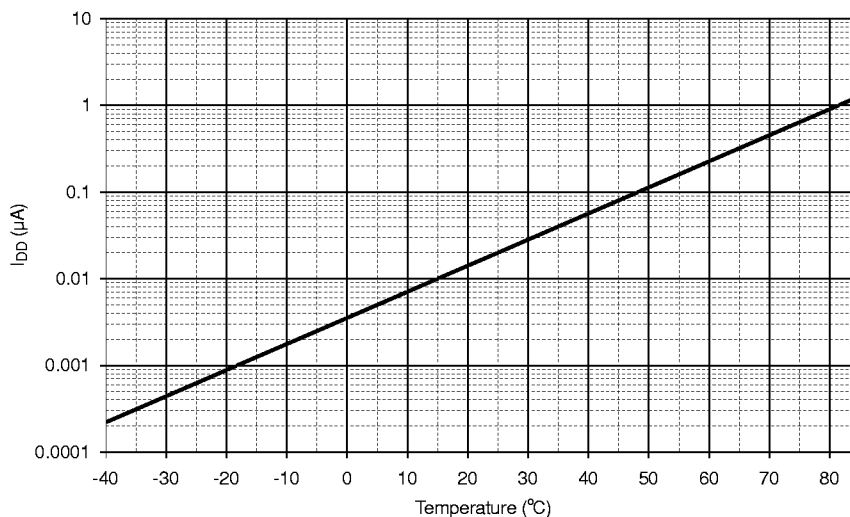

Figure 19: Typical 'Zero Power' I_{DD} vs. Temperature (V_{DD} = 5.0V)
2. RD, RXCLK, MODE 2 inputs at V_{SS} , MODE 1 input at V_{DD} . See also Figure 19.